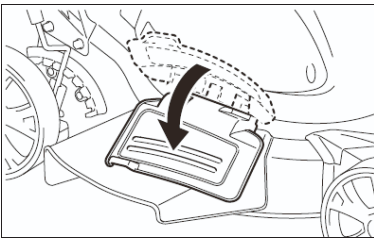

Fig.9E
5. Lower the sideward flap- the flap lies on the discharge channel. (Fig.9E)